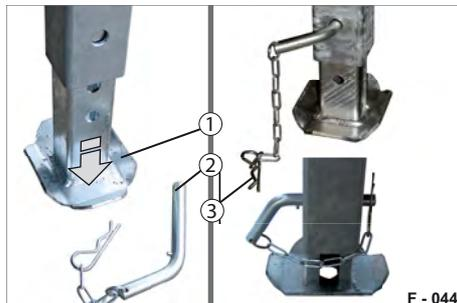

Fig. 60 Adjusting the levelling foot
- ▶ Remove the spring pin (Fig. 60/3) from the socket pin (Fig. 60/2).
- ▶ Place the levelling foot (Fig. 60/1) on firm ground and adjust the levelling foot downwards until it can still be located in the further hole.
- ▶ Adjust the levelling foot (Fig. 60/1) upwards and secure it with the socket pin (Fig. 60/2) and spring pin (Fig. 60/3).